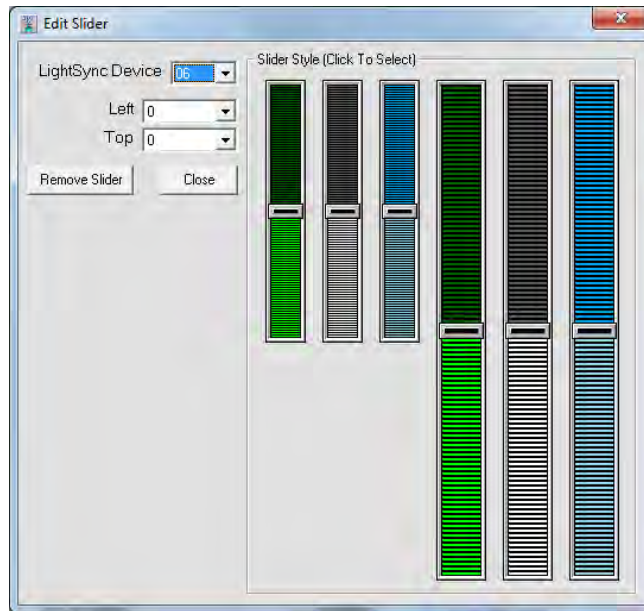

Figure 7 Dimming Slider Options
2. Click on one of the 6 the slider icons desired for your dimming as shown in Figure 7. Note: The large sliders may not fit on the smaller screens in the landscape orientation.